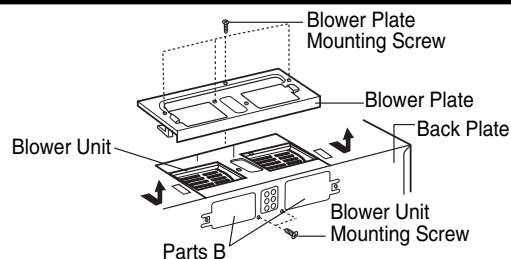

Figure 13
1. Remove one or two blower unit mounting screw(s) and one or several blower plate mounting screw(s). Remove the blower plate from the cabinet. See Figure 13.